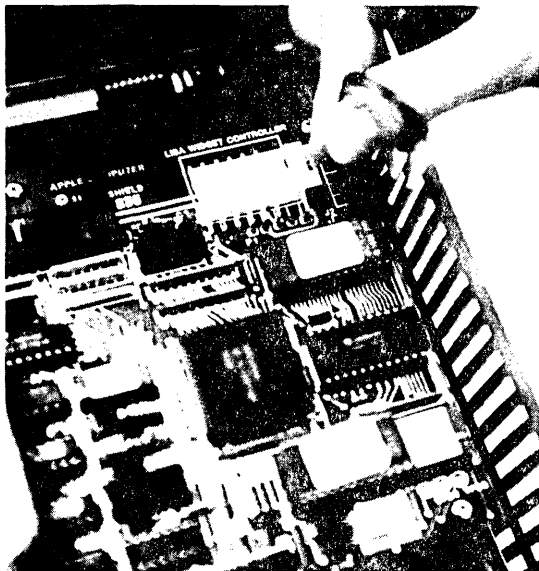

FIGURE 8
2. Disconnect the two-pin fan connector (see Figure 8) located on the right side of the controller card (upper board).